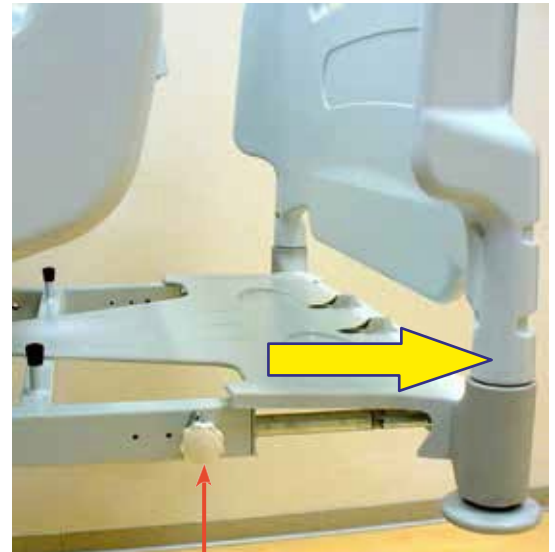

Fig. 2
release the extension by unscrewing the knobs (18), placed on both sides of the bed, and pull the section outwards until the end of the stroke (Fig. 2);